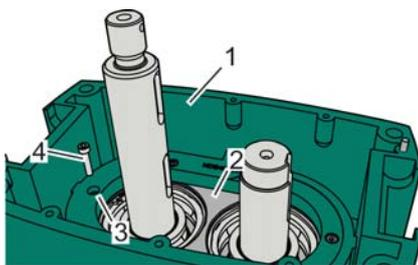

Fig. 136: Attaching the upper bearing housing of the gearbox housing, example
10. ➔ Tighten the attachment bolts (Fig. 136/4) by hand through the boreholes (Fig. 136/3) of the gearbox housing (Fig. 136/1) in the bearing housing.
11. ➔ Tighten the attachment bolts (Fig. 136/4) crosswise with the prescribed torque (☞ Appendix "Screw tightening torques" on page 131).